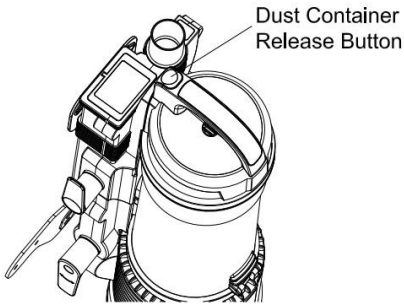

Fig 10
2. Release the dust container by pressing down the release button. (Fig. 10)